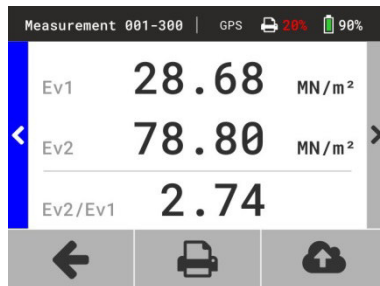

Figure 18
- ⇒ The values of  $E_{V1}$ ,  $E_{V2}$  and the ratio  $E_{V2}/E_{V1}$  are displayed on the screen (Figure 18).